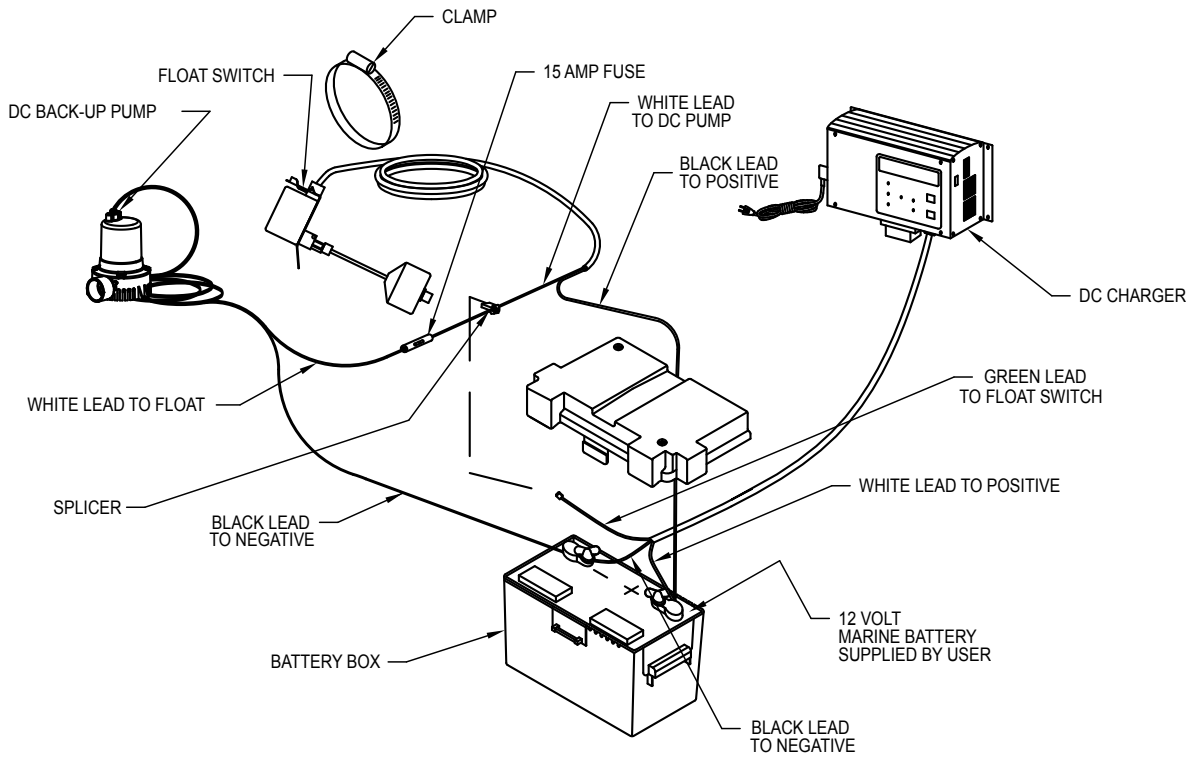

FIGURE 3
11. Install DC charger (see figure 3) by using anchors provided. If more convenient, the charger may be set on a nearby shelf or ledge. The charger should be located 3 or 4 ft. above the sump. Then, remove protective screen from the front of the charger.
13. Connect the black lead from the pump to the negative (-) battery terminal. Connect the white lead from the pump to the white lead from the switch. This connection is made at the fuse installed on the switch wire (see figure 3). Connect the black lead from the switch to the positive (+) battery terminal.
14. Connect the green sensor wire to the sensor connector (figure 3).